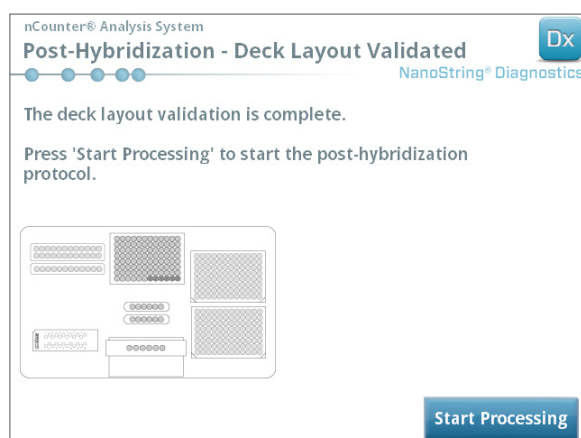

FIGURE 5.27: The 'Post-Hybridization - Deck Layout Validated' screen
- c. After deck validation is complete (**FIGURE 5.27**), a new screen containing the **Start Processing** button will appear. Touch **Start Processing** to initiate the run.